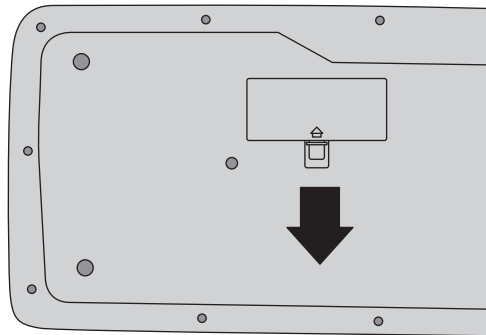

fig. 1
1. Open the battery compartment. See fig. 1